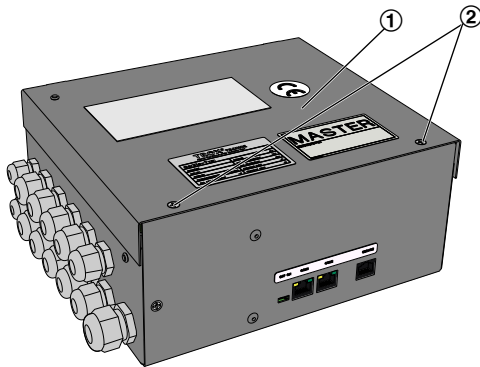

Fig. 8: Control equipment box
1. ▶ Remove the cover of the control equipment box (Fig. 8/1). To do so, loosen the Phillips screws (Fig. 8/2), then take off the cover.